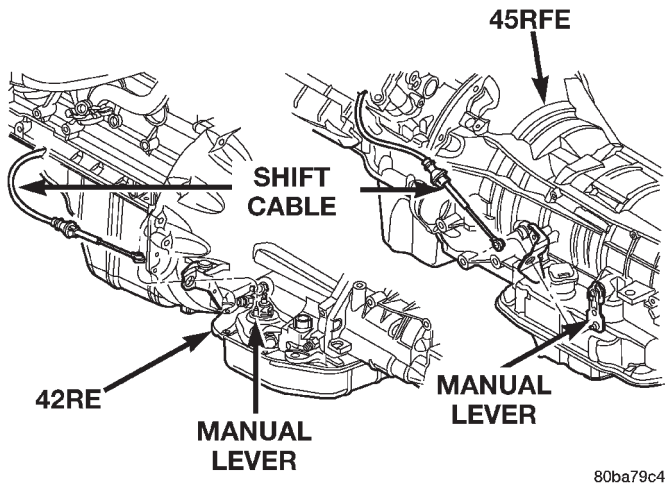

Fig. 17 Transmission Shift Cable
(7) Remove the exhaust support bracket from the rear of the transmission.
(8) Disconnect and lower or remove any necessary exhaust components.
(9) Remove the starter motor.
(10) Rotate crankshaft in clockwise direction until converter bolts are accessible. Then remove bolts one at a time. Rotate crankshaft with socket wrench on dampener bolt.
(11) Disconnect wires from solenoid and pressure switch assembly, input and output speed sensors, and line pressure sensor.
(12) Disconnect gearshift cable from transmission manual valve lever (Fig. 17).